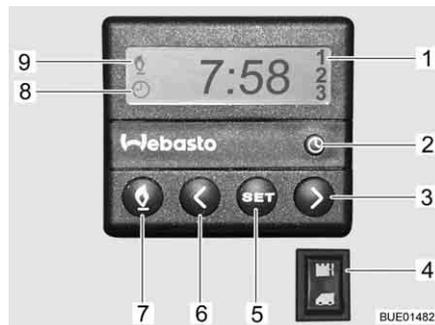

Fig. 176 Operating unit for independent vehicle heater
- Press the button (Fig. 176,7). The heating mode is displayed by the symbol (Fig. 176,9). The fan will only be switched on when there is a coolant temperature of 30 °C.
- Press the button (Fig. 176,7). The symbol (Fig. 176,9) goes off.
- Press the lower part of the switch (Fig. 176,4). Engine is preheated. The fan is switched on immediately.
- Press the upper part of the switch (Fig. 176,4). Engine stays cold.
- Press the button (Fig. 176,2). The time setting is displayed by the symbol (Fig. 176,8).
- Set the time with the buttons (Fig. 176,3 and 6).
- Press the button (Fig. 176,5).
- Set the switching on time within ten seconds, with the buttons (Fig. 176,3 and 6).
- Keep pressing the button (Fig. 176,5) until the selected programme number (Fig. 176,1) appears in the display.